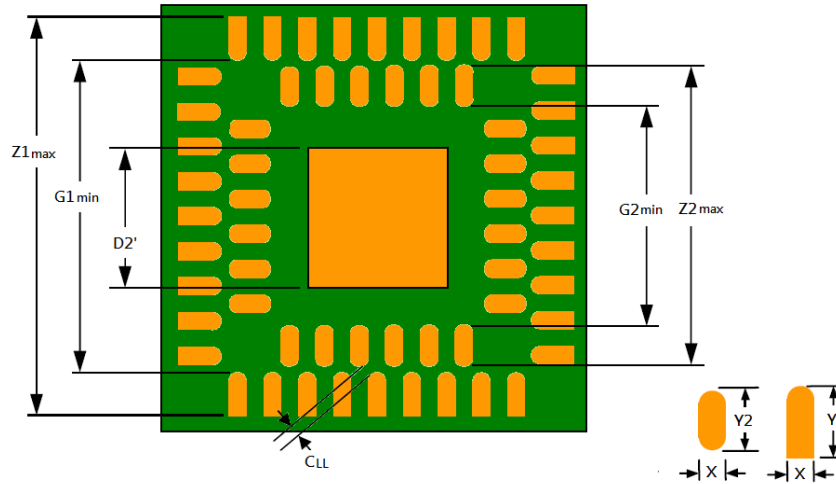

Figure 7 DRQFN PCB footprint
According to supplier Amkor's recommendation; the land width (X) for both inner and outer rows is needed (refer to Figure 7 above). Based on history of single row QFN, a lead width (X) of 0.280mm was chosen for 0.500mm pitch. Outer row land pattern dimension $Z1_{Max}$ is calculated using standard IPC methodology and expressed in terms of nominal body size dimension: